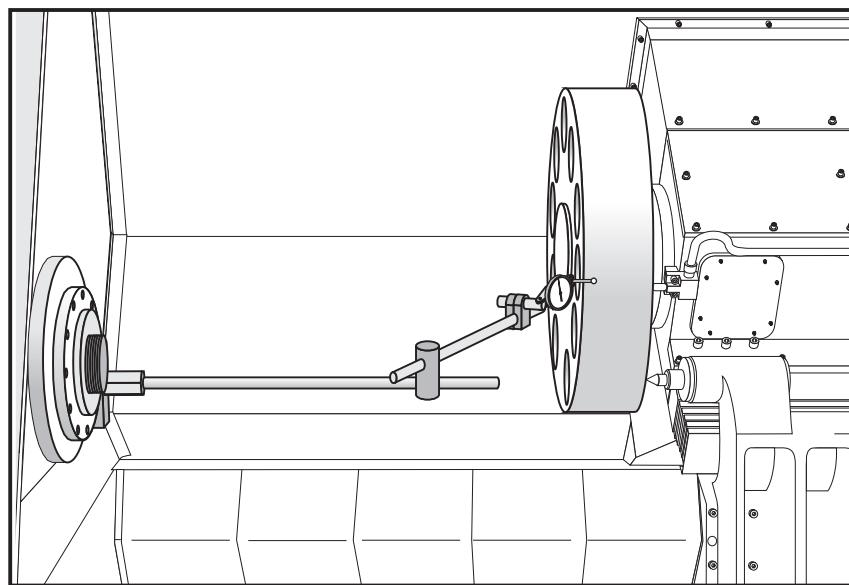

Fig. 4-1. Dial indicator in position to check X-axis.
1. Place a dial indicator and base on the spindle retaining ring with the tip of the indicator positioned on the outside diameter of the turret, as shown in Fig. 4-1.
An alternate method for checking backlash is to place the dial indicator as shown in Fig. 4-1 and manually push on the turret in both directions. The dial indicator should return to zero after releasing the turret. **NOTE:** The servos must be on to check backlash by this method.